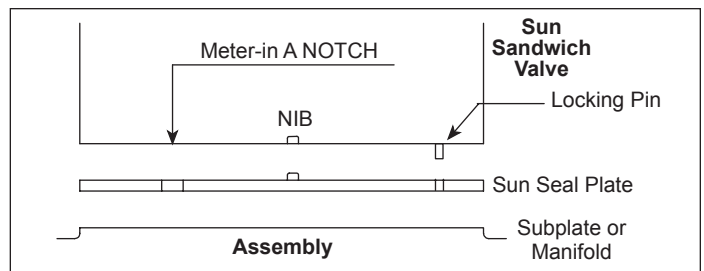

Figure 2. Assembly
All Sun seal plates are manufactured to accommodate current industry standards regarding port and mounting bolt locations. Each Sun ISO 03 (CETOP 3) sandwich body is supplied with a "NIB" locating hole which is drilled on each mounting face to position the body in the correct relationship to the ports and mounting holes. To further ensure that all bodies are located properly, all ISO 03 (CETOP 3) sandwich bodies are stamped with an arrow (or arrows) to show the relationship to the notch in the seal plate (see Figure 2). Multi-function bodies are "NOTCH" stamped for all possible mounting positions and all positions should be carefully inspected to be sure the intended function is correctly installed.
2. Position the Sun sandwich body so that the control "NOTCH" arrow for the required function points to the "NOTCH" in the seal plate. See Figure 2.